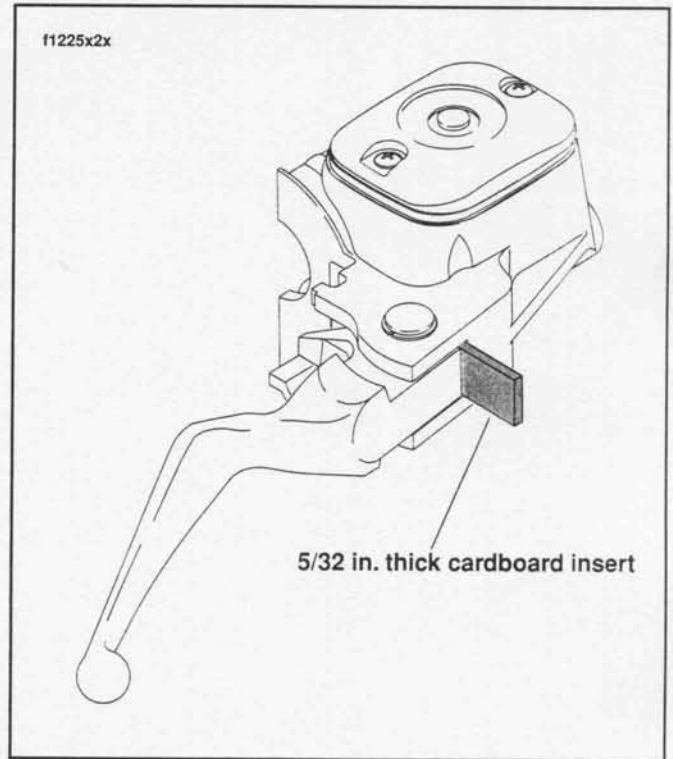

Figure 2-44. Install Cardboard Insert Before Removing Master Cylinder Assembly
3. Place the cardboard insert between the brake lever and lever bracket. See Figure 2-44.
See Figure 2-44. Do not install the master cylinder assembly without first placing the 5/32 inch thick cardboard insert (or cable strap eyelet) between the brake lever and lever bracket. Installation without the insert may result in damage to the rubber boot and plunger of the Front Stoplight Switch.